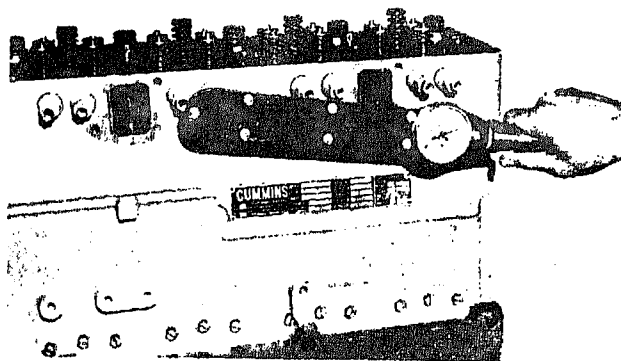

Fig. 14-1-42. Torquing fuel inlet and drain connections
7. Tighten inlet and drain connections to 20/25 ft. lbs. [2.7660/3.4570 kg m], Fig. 14-1-42. Be sure that wrench engages nuts next to connection springs.